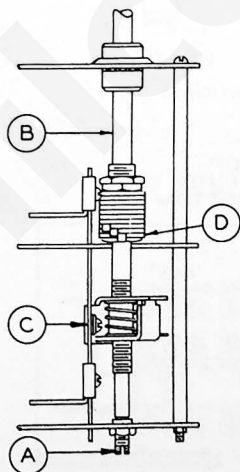

FIG. 1 — BAND SPREAD TUNING MECHANISM
a. Turn shaft (B) until carriage (C) is approximately six (6) threads from knob end of shaft. See Fig. 1.
b. Turn shaft counter-clockwise at the same time holding the rear stop washer (D) until all other washers are in contact.